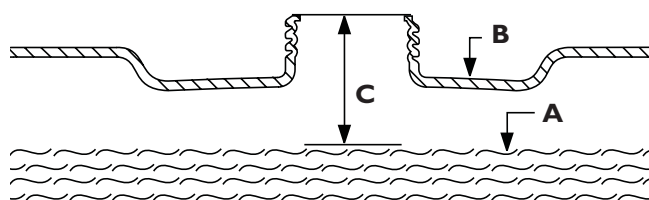

Figure 2 — Fuel Expansion
3. Slowly add unleaded gasoline (**A**) to fuel tank (**B**). Be careful not to overfill. Allow at least 1.5" (38 mm) of tank space (**C**) for fuel expansion, as shown in Figure 2.